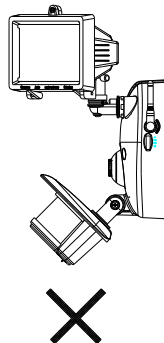

FIGURE 3
- The distance between floodlight and PIR motion sensor cannot be too close because the heat from the floodlight will hinder the normal operation of the PIR motion sensor. (FIGURE 3)